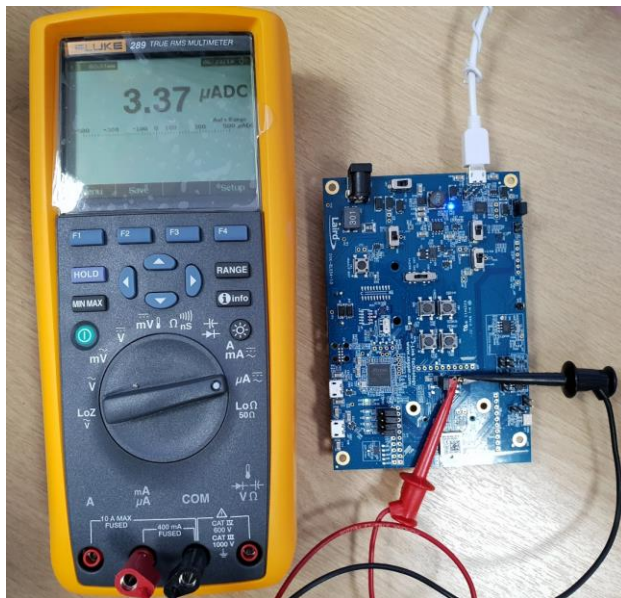

Figure 8: The current falls to about 3.3uA (3.1 uA to 3.7 uA is expected value) when placed in standby doze mode
6. Through the current measuring DMM, the current should fall to about 3.1 uA to 3.7 uA (Figure 8).